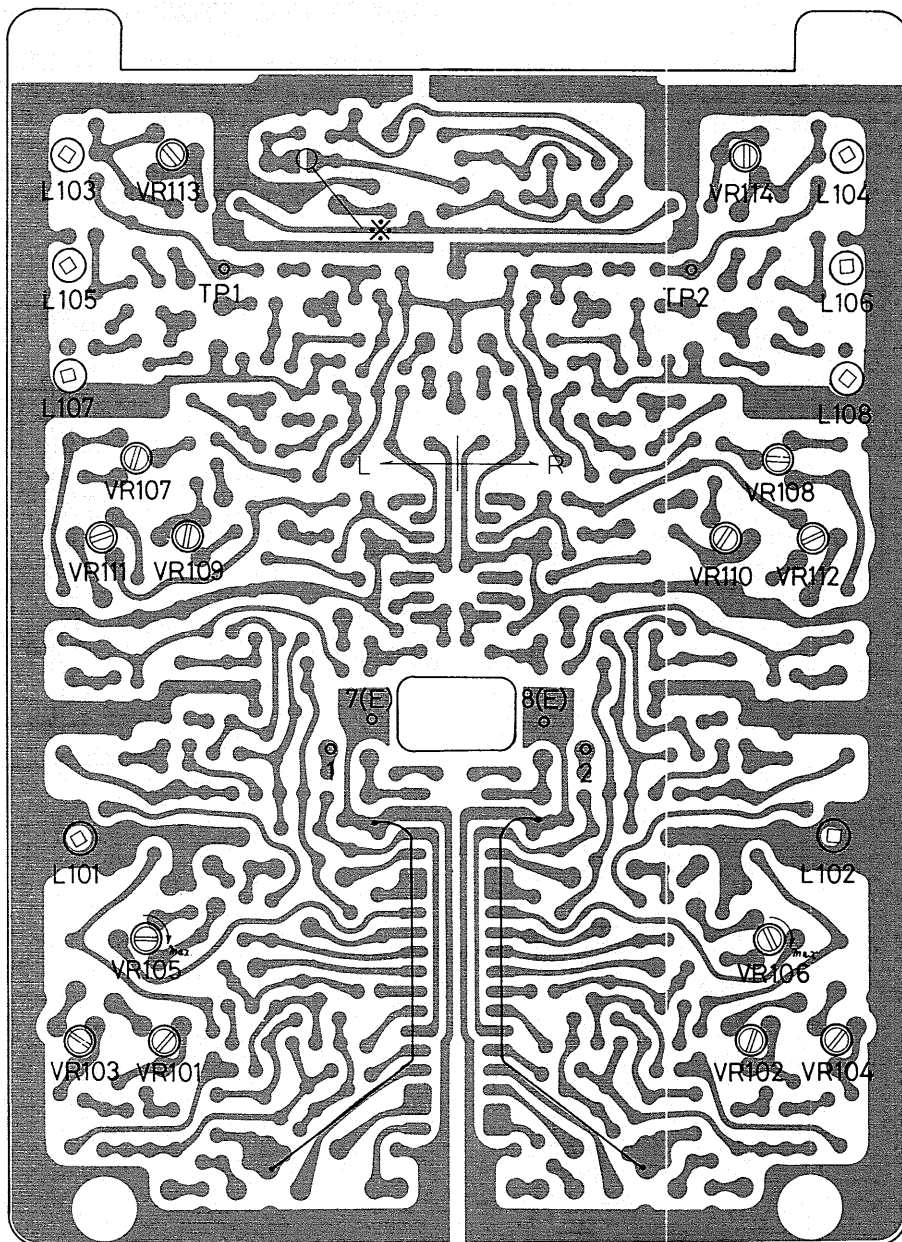

Fig. 32 REC/P.B Amplifier assembly
7.2 PLAYBACK EQUALIZER (Fig. 32)
- To do this adjustment, the tape bias current must be stopped. In Fig. 32 at a mark (*) of solder joins, two parts of the printed circuit. When this solder has been removed, the power supply to the oscillator is stopped. This shuts off bias current.
4. Set the equalizer selector (EQ) to NORMAL.